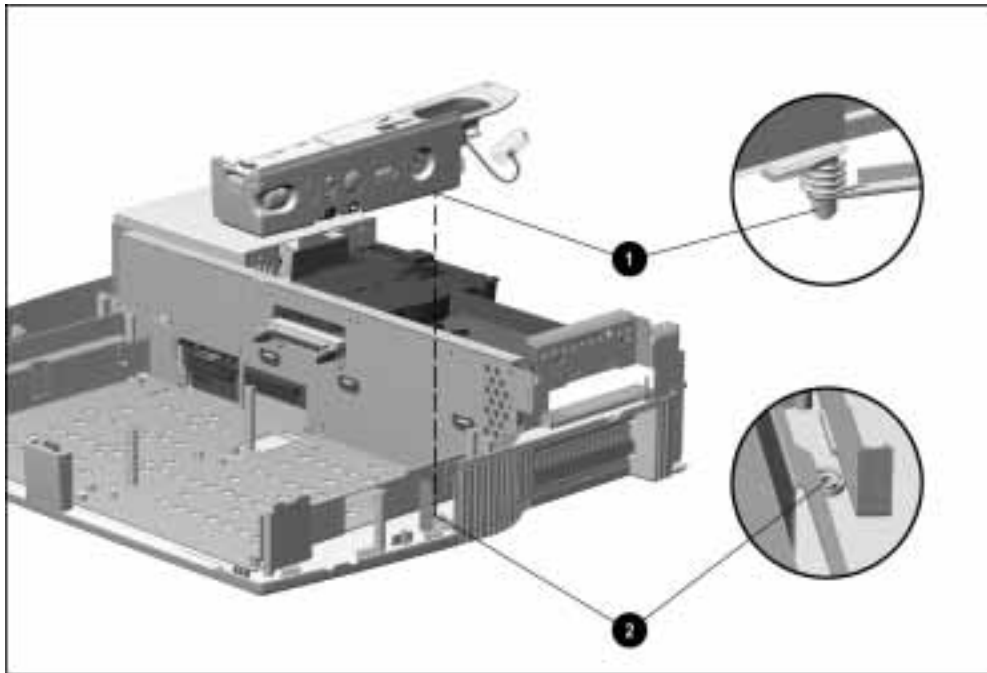

Figure 5-43. *Installing the Control Panel Assembly*
4. Insert the control panel assembly into the base assembly, making sure the pin on which the actuator spring sits ❶ fits into the alignment hole in the base assembly ❷ (Figure 5-43).